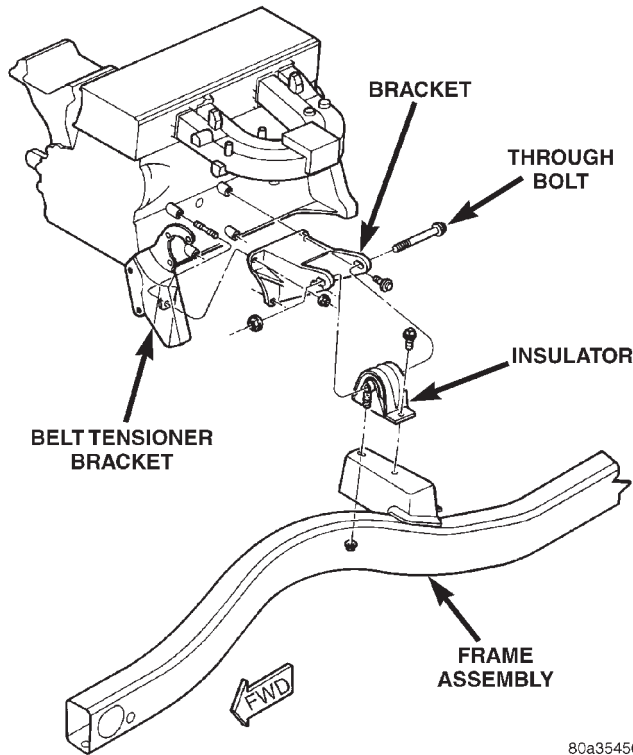
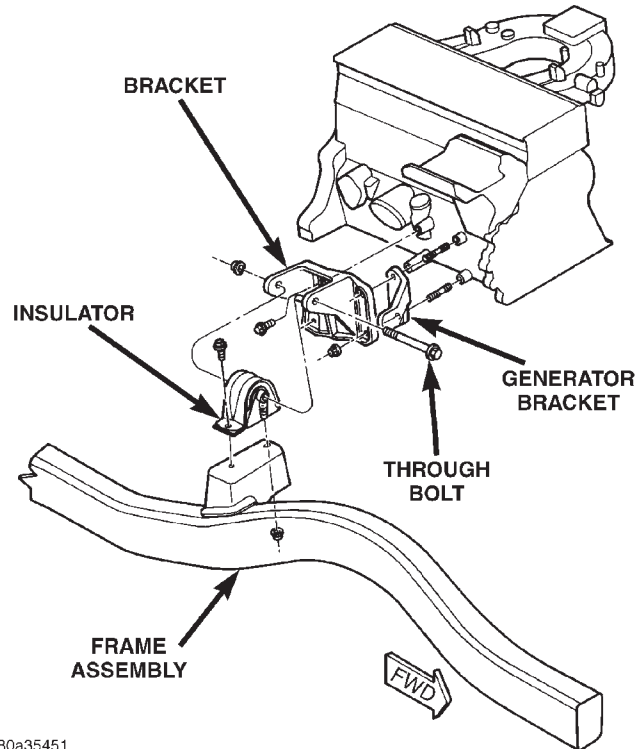

Fig. 22 Left Front Mount—2.5L Engine
Fig. 23 Right Front Mount—2.5L Engine
- (4) Remove through bolt nut (Fig. 22) (Fig. 23). DO NOT remove the through bolt.
- (5) Remove the retaining bolts and nuts from the support cushions.
- (6) Remove the through bolt.
- (7) Remove the engine mount insulator.